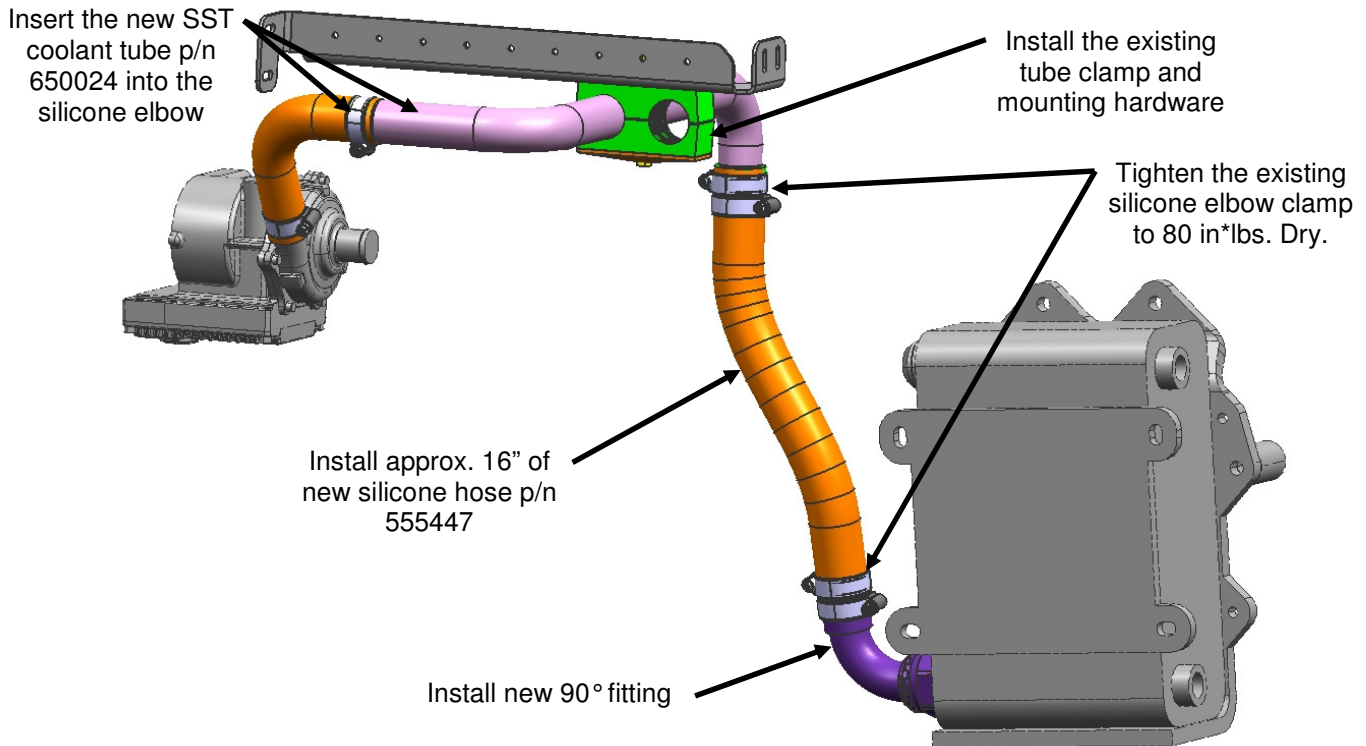

Figure 6: Cabin Heat Coolant Intake Tube Installation
17. Insert the new SST intake coolant tube p/n 650024 thru the tube clamp forward hole from Step 15 or 16 and into the silicone elbow at the booster pump. Loosely install the hose clamp removed in Step 9. See Figure 6.
18. Install new elbow fitting p/n 648252 loosely to the heat exchanger intake cabin loop fitting. See Figure 6.
19. Loosely install approx. 16" of new silicone hose p/n 555447 (trim hose to fit) between new heat exchanger cabin heat elbow fitting installed in Step 18 and newly installed tube from Step 17 using existing hose clamps removed in Step 10, two (2) at each end of the hose.